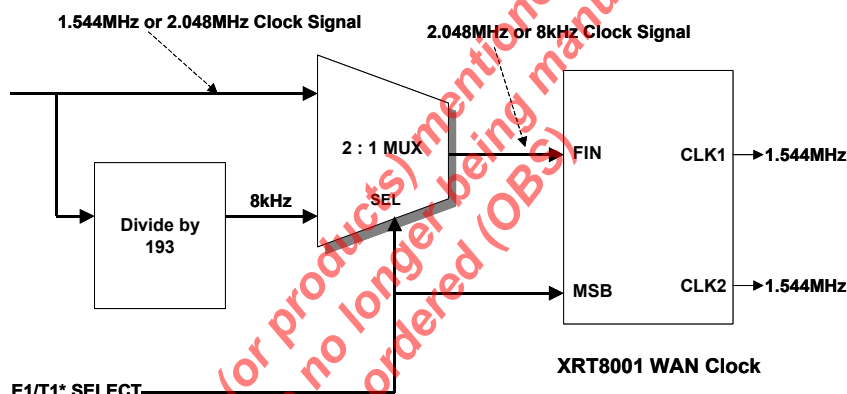
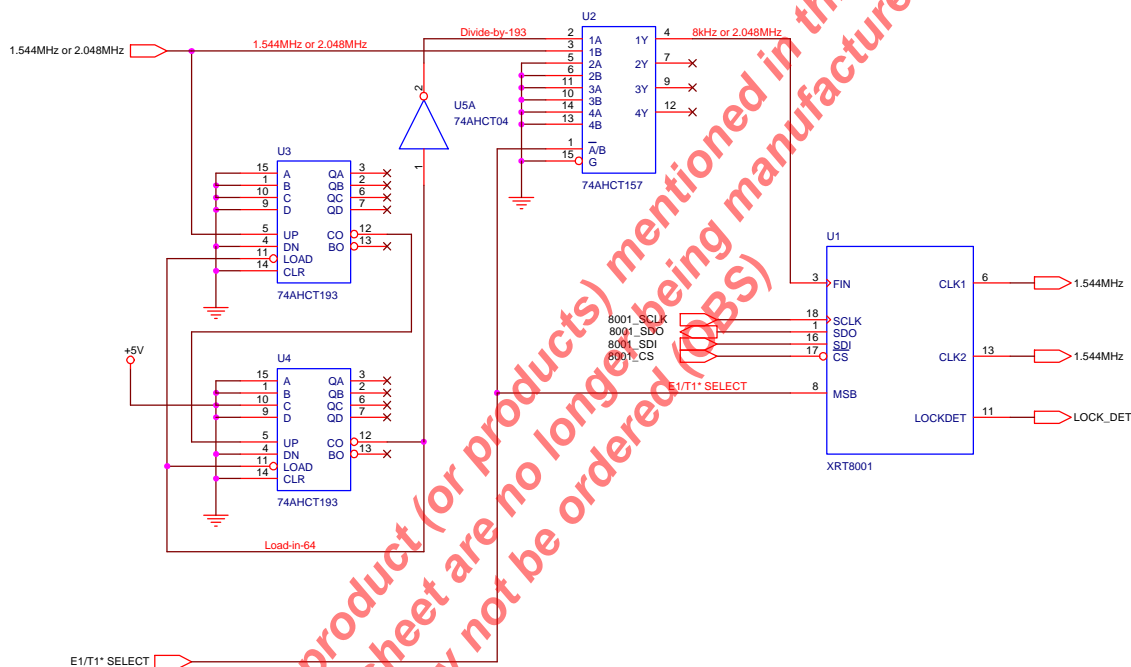

Figure 23: Synthesizing a 1.544MHz clock signal from a 1.544MHz or 2.048MHz clock
Figure 24: Hardware Design Implementation of Figure 23.
In Figure 23, the 1.544MHz or 2.048MHz input clock signal is routed to two locations.
Figure 23 also includes a digital “E1/T1* SELECT” signal. This signal is connected to both the “SEL” input of the “2:1 MUX” and the “MSB” input of the XRT8001 WAN Clock. The basic idea behind this schematic is as follows:
Figure x presents a simple block diagram of a design that can accept either a 1.544MHz or a 2.048MHz clock signal, and synthesize a 1.544MHz clock signal. Now we need to provide some details. Hence, Figure 24 presents a circuit schematic which realizes the function, depicted in Figure 23.
Next, we describe how to configure the circuitry in Figure 24 to accept a 2.048MHz clock signal, and configure it to synthesize a 1.544MHz clock signal by executing five steps. We also describe how to accept a 1.544MHz clock signal and configure it to synthesize a 1.544MHz clock.
Configuring the Circuitry in Figure 24 to accept a 1.544MHz clock signal and synthesize a 1.544MHz clock signal.
Once the user has executed these four (4) steps, then the circuitry in Figure 24 is configured to accept a 1.544MHz clock signal (from the T1/E1 LIU) and synthesize a 1.544MHz clock signal.